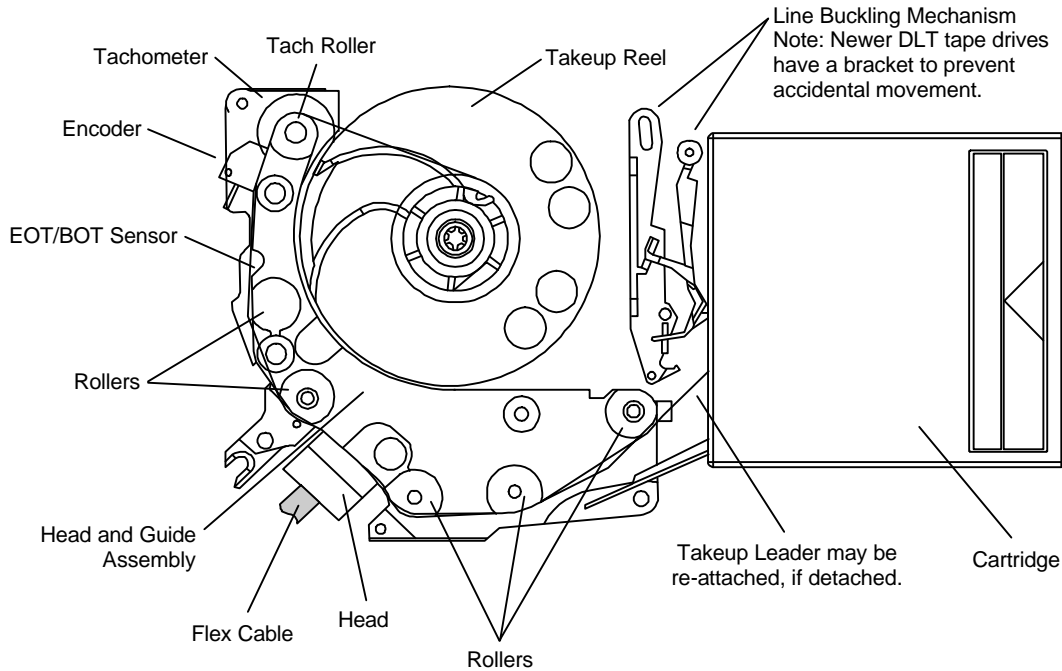

Figure 11 Tape Paths
12. After the plastic dust cover has been removed, gently rotate the take-up reel until the leader "Mushroom" tip is exposed (rotate clockwise). See Figure 11.
17. If a sticker was attached to the dust cover, use a lint free cloth pad dampened with isopropyl alcohol to remove any residue from the sticker. Replace the dust cover. On DLT 4000 models, make sure that the flex cable leading away from the head is on the inside of the dust cover when it is attached. See Figure 11. Bending or crushing the flex cable can damage the wires.